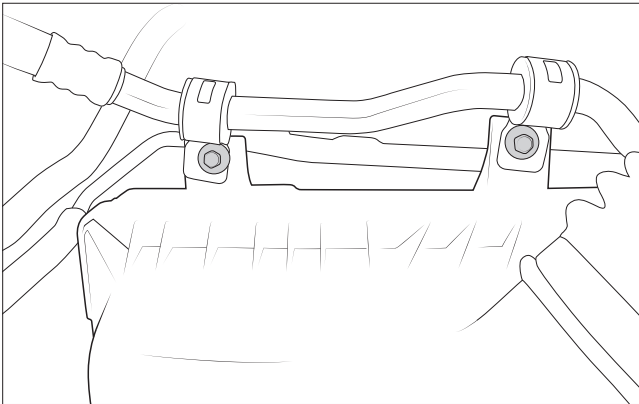

Figure 12
- c. Remove the two bolts holding the air conditioning line to the air box (Fig. 12).